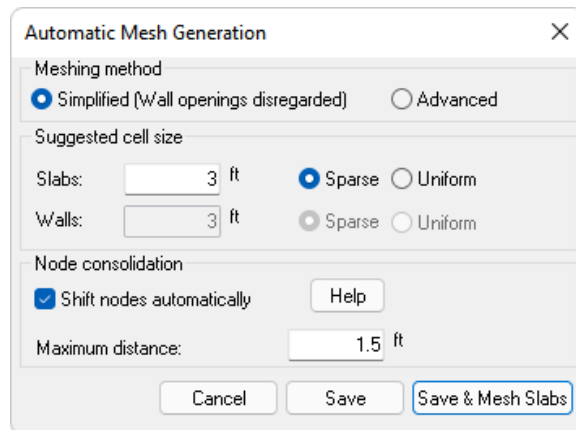

FIGURE 7-8
- Go to *Analysis->Meshing* and click on the **Mesh Generation**  icon. This will bring up the *Automatic Mesh Generation* window as shown in **FIGURE 7-8**.